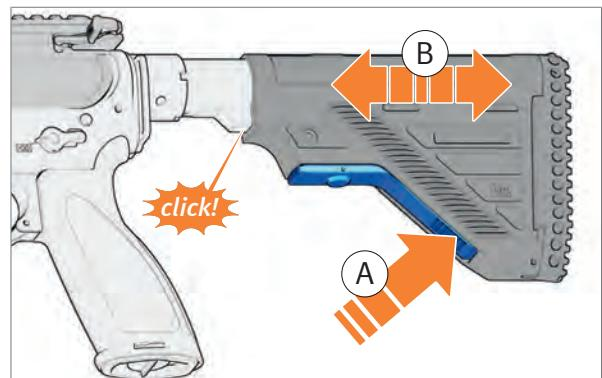

Fig. 47: Adjust buttstock
1. Press buttstock release lever and hold it (Fig. 47).
2. Slide buttstock to the desired position (Fig. 47).